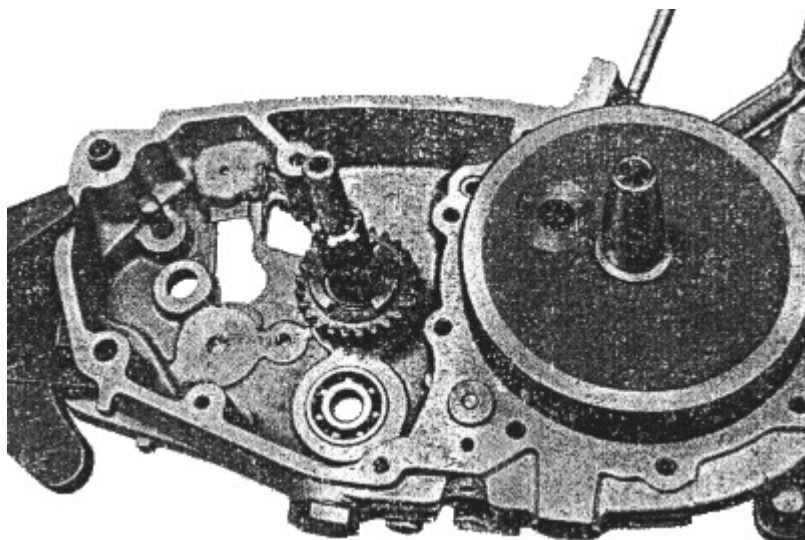

Fig. 47. Fitting the clutch shaft
- Provide the clutch shaft with the gear for the 4th speed which must be secured by means of a circlip. Heat the internal race of the 6204 bearing and cause the clutch shaft to contact the bearing internal race (Fig. 47).